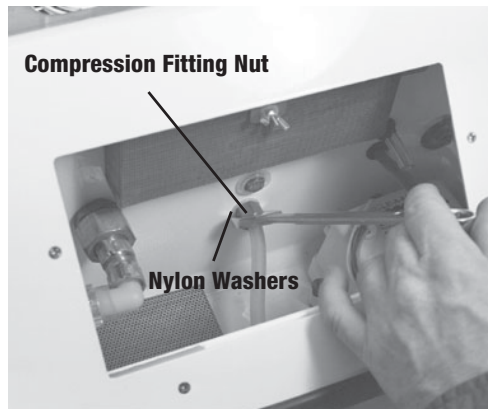

Figure 15
4. Remove compression fitting nut and nylon washers from inside of recovery tank (fig. 15).